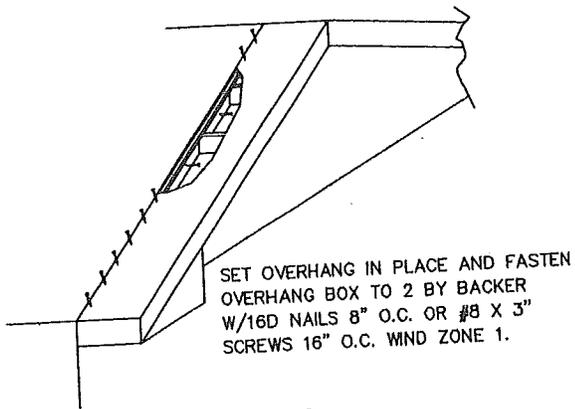
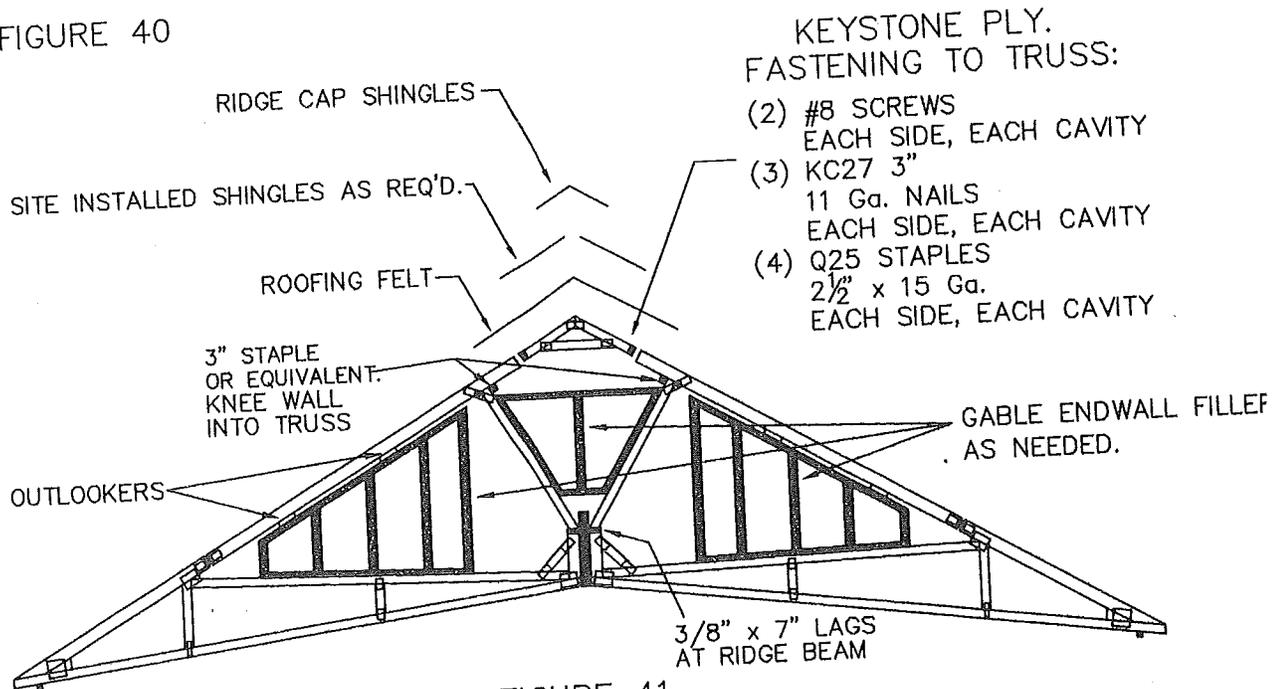

FIGURE 40
FIGURE 41
Carefully fold down the hinged eave, as it applies, and fasten it to the exterior wall as shown in Figure 39. Where the eave is a ship loose assembly install it as shown in Figures 40. Where the home has a hinged roof (the roof should already be raised) the ridge assembly will need to be installed along the ridgeline as shown in Figure 41.
After the hinged roof has been raised and set in place, insert the gable truss wall support framing into the opening in the truss as shown in figure 41. Slide the side supports outward until they tighten against the truss framing or outlookers and fasten in place using (2) # 8X3" screws to fasten the top of the support to the outlookers, and (1) # 8X3" screw between each vertical member to fasten the bottom of the support to the truss. Insert the center support into the space between the unit sections, sliding it downward until it makes contact with the truss framing. Fasten the support in place using # 8X3" screws.